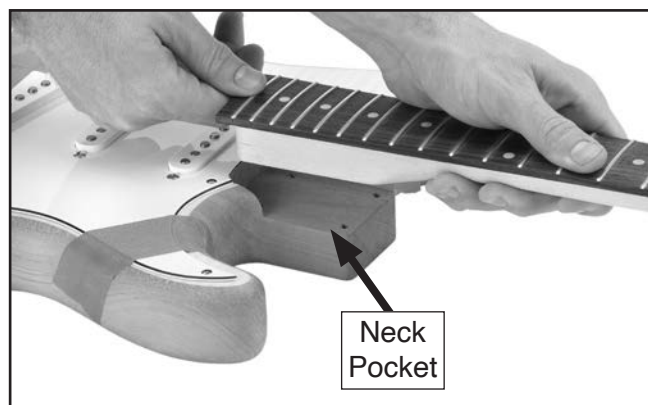

Figure 6. Example of mounting neck.
1. Insert neck into neck pocket (see **Figure 6**), and check to make sure neck and body are flush.